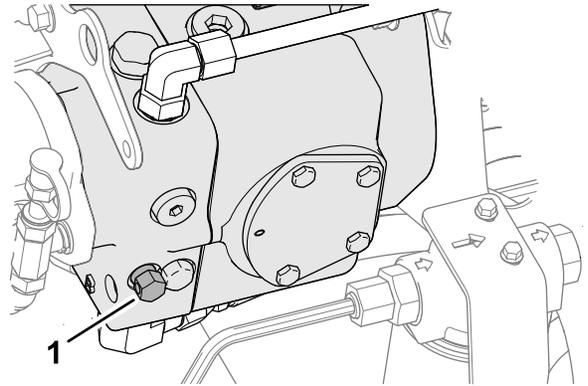

Figure 58
3. At the variable-displacement pump, rotate the bypass-valve bolt 1-1/2 turns to open and allow oil to bypass internally (Figure 58).